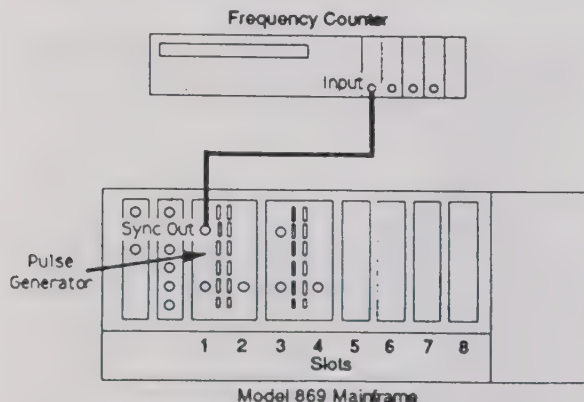

Figure 2-9. Frequency Accuracy Test Hookup
1. Interconnect the required test equipment as shown in figure 2-9.